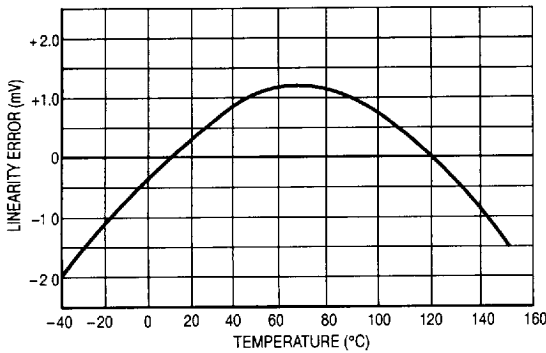

Figure 4. Linearity Error versus Temperature
- All devices within an individual group, as described in Note 1, will track within the specified temperature accuracy. This includes variations in T_C, V_{BE}, and nonlinearity in the range -40 to +150°C. Nonlinearity is typically less than ± 1°C in this range. (See Figure 4)